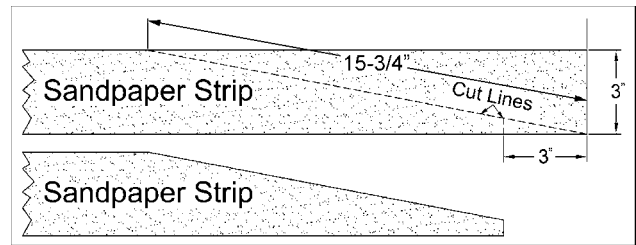

Figure 8
1. Mark and cut a taper at one end of the roll, as shown in Figure 8.
2. Square off the end of the taper, as shown in Figure 8.
7. Remove the abrasive strip and cut a taper as was done with the starting edge, (See Figure 8). **Note:** The taper on the remaining roll can be used as the taper for the starting edge of the next strip to be cut.